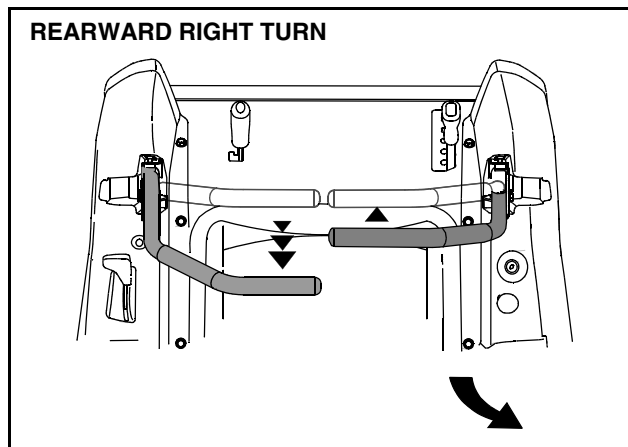

Figure 15
- To turn to the right while traveling in reverse, move the right drive control lever forward of the left lever. See Figure 15.